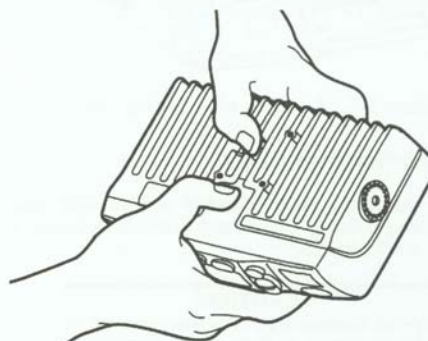

Figure 1-6. Lock Housing Cover into Place
5. Firmly press housing cover and heatsink together until cover latch snaps into place (refer to Figure 1-6).